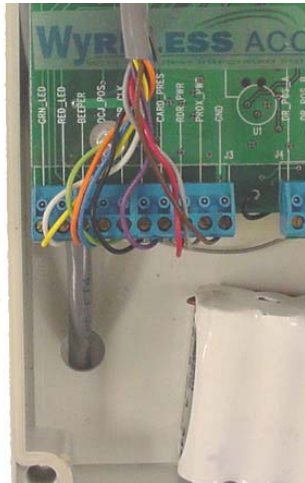
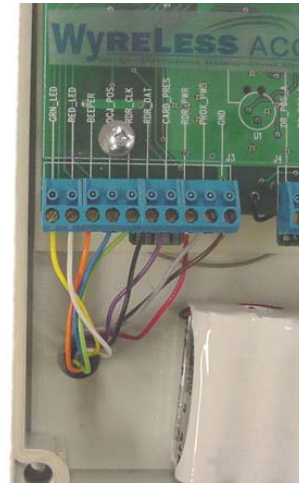

Figure 2-1 – Improper Wire Routing
Figure 2-2 – Proper Wire Routing
- 2.3.1 **TRANSCIVER CONTROL BOX** – A 1” hole is provided in the back of the Transceiver Control Box for routing wires in & out. If needed, additional hole(s) can be drilled in the lower left hand corner of the Transceiver Control Box. Wire routing inside the enclosure is very important. Improper wire routing will reduce the RF range. Keep the wires inside the enclosure as short as possible (i.e. do not coil any excess wire inside the enclosure) (Figure 2-1 & Figure 2-2).